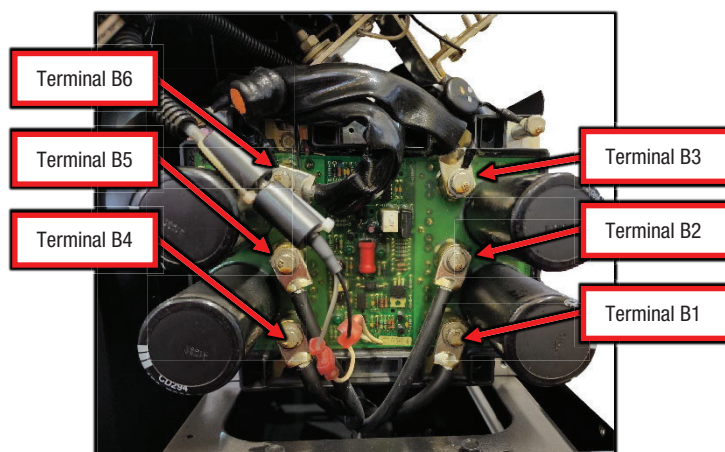

Figure F.3
A.3. Perform the static measurements in Test Table 1, refer to Figure F.3 for test point locations. NOTE: MEASUREMENTS ARE MADE ON THE LEFT CHOPPER BOARD TERMINALS WITH THE LEADS REMOVED.